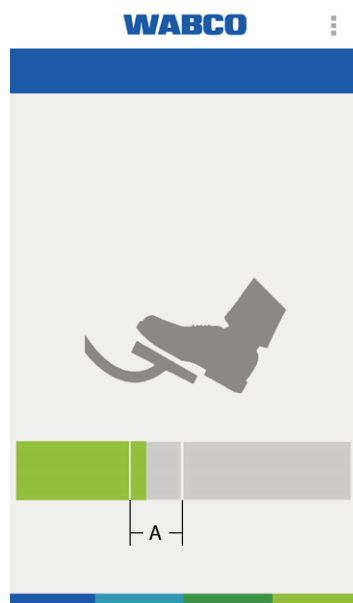

Fig. 3 Authentication "Mobile terminal – Trailer vehicle" (language-neutral representation)
- Press the service brake until the display bar is in the marked area (A) and maintain this pressure for the time indicated (▶ Fig. 3, page 11).